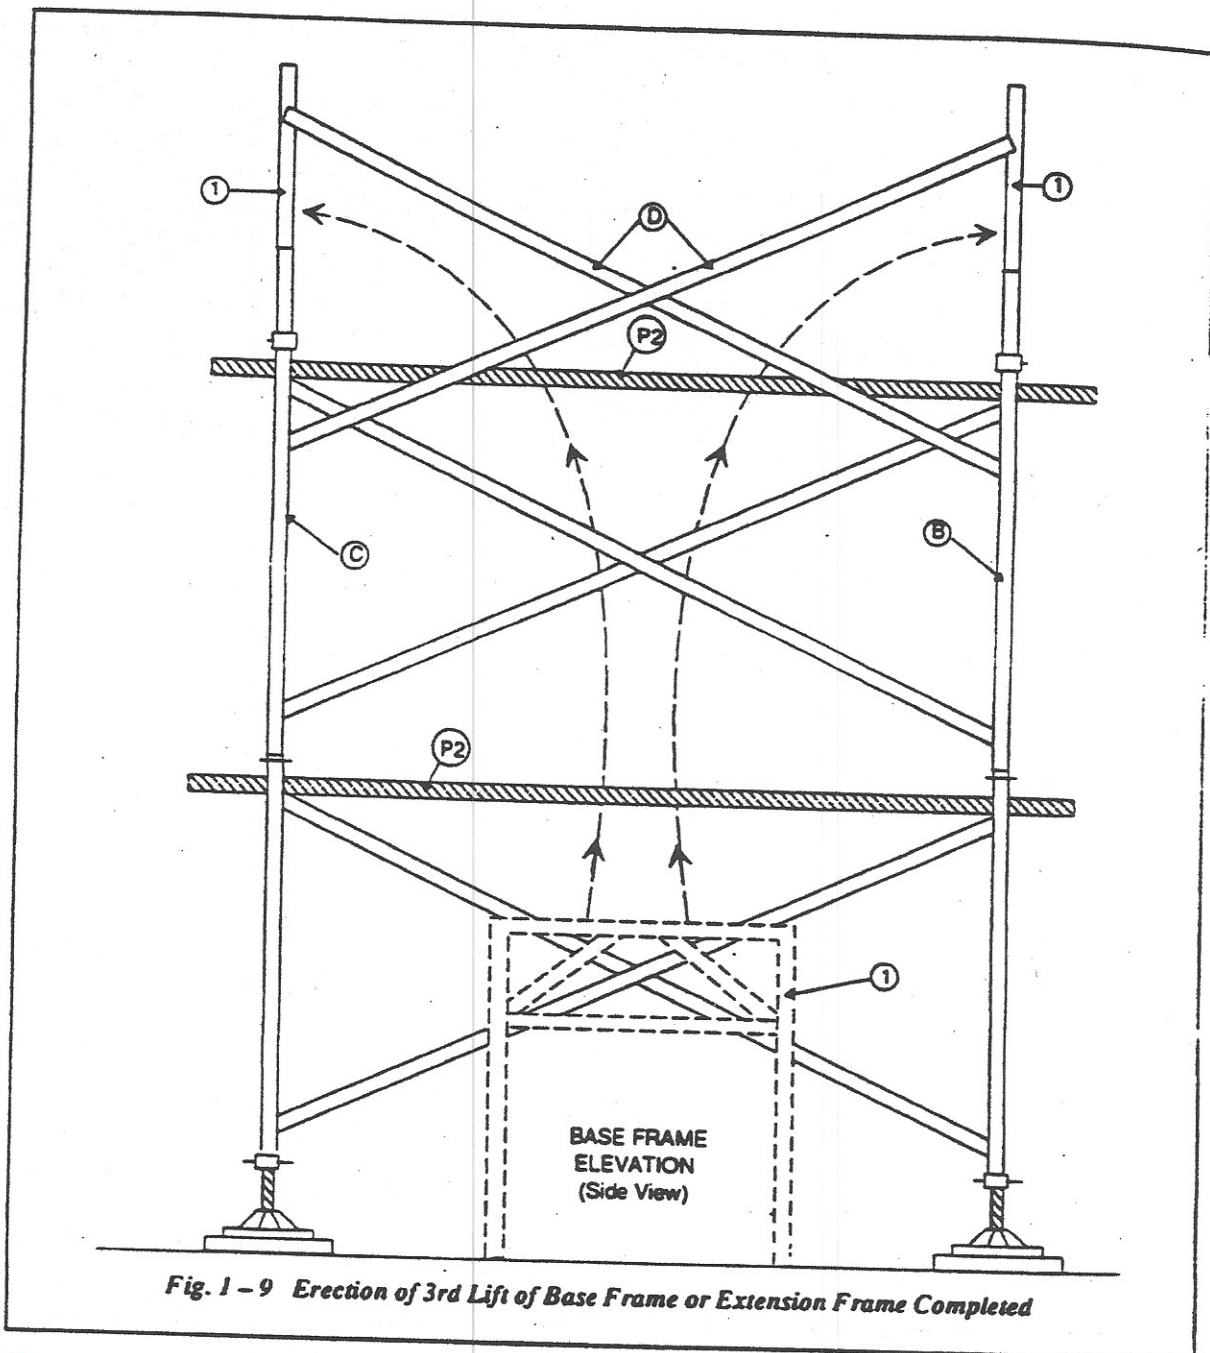

Fig. 1-9 Erection of 3rd Lift of Base Frame or Extension Frame Completed
- b. 2nd man on plank P1 hands frames or extensions 1 to man on plank P2 for setting. (see Fig. 1-9)